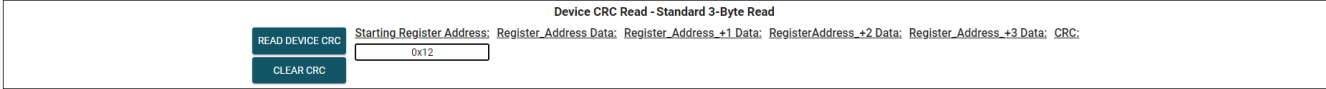

Figure 3-18. Device CRC Read - Starting Register Address
- a. Enter the *Starting Register Address* to do a Standard 3-Byte Read of the data from the selected register as well as the following 3 registers and the CRC byte. For this example, register 0x12 is being used as the *Starting Register Address*(see Figure 3-18 below).